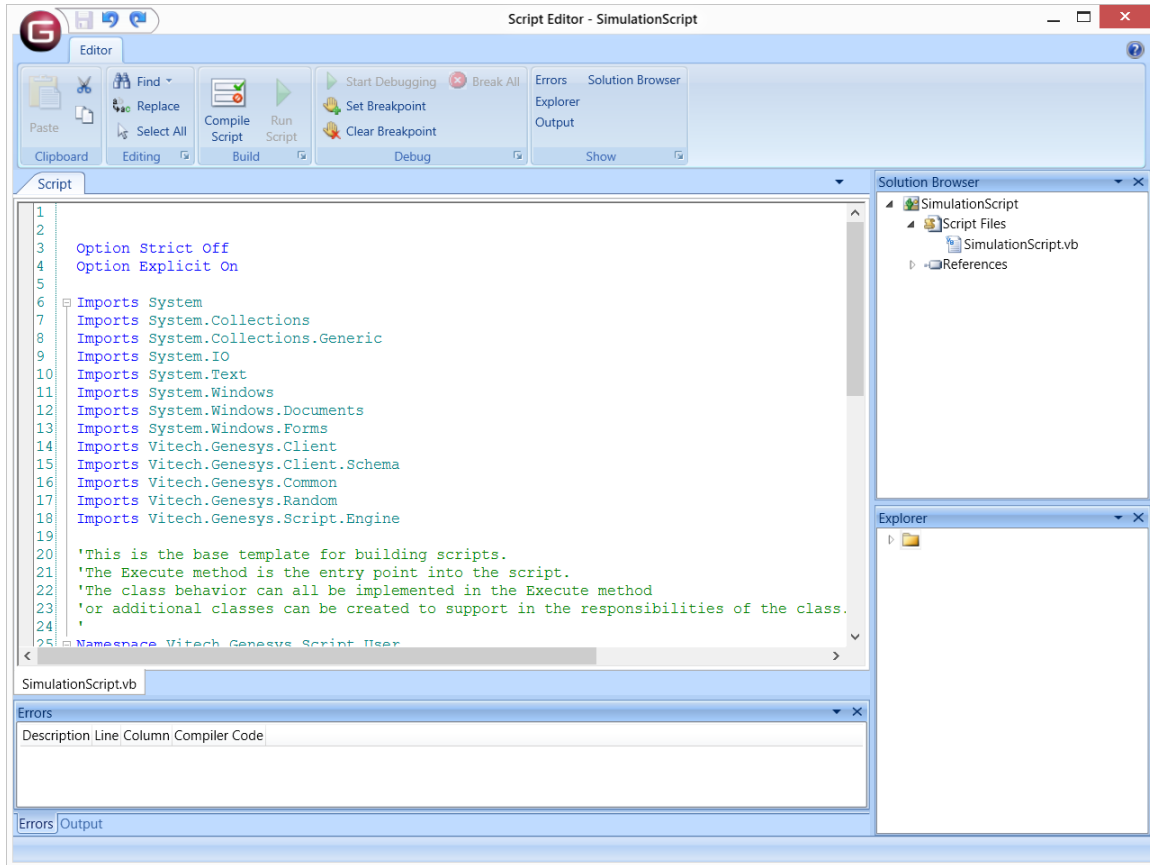

Figure 17 Script Editor Window
- Select the **Script** option to create a Microsoft Visual Basic script to determine the attribute value. The Script Editor Window as shown in Figure 17. GENESYS will execute the script at the start of each execution of the **Function** once the necessary **Resources** have been acquired and triggers processed. More information on scripting is provided in Section 7.
The script is entered/modified by clicking the **Edit** button next to the attribute in the **Properties** window. The **Edit** button opens a Script Editor window (Figure 17) where the script is built using Microsoft Visual Basic and the GENESYS API.